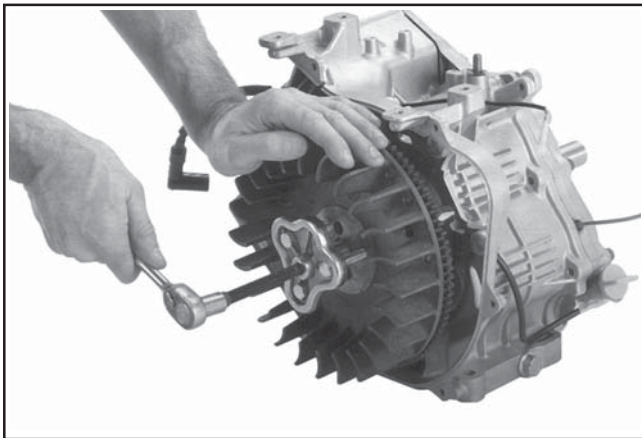

Figure 9-49. Using Puller to Remove Flywheel on CS8.5-CS12.
2. Remove the flywheel from the crankshaft using a puller. See Figure 9-49 and 9-50.